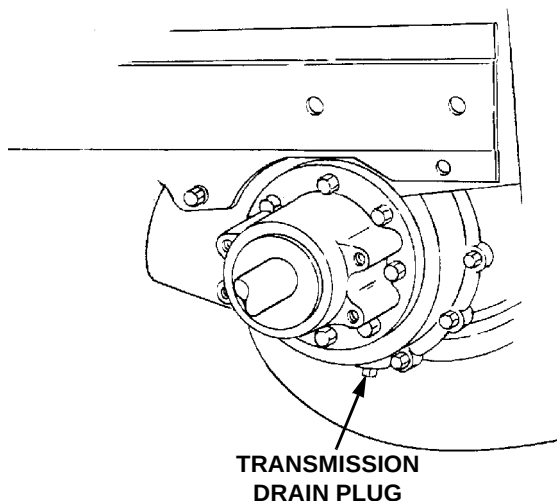

Figure 21
2. Clean the area around the transmission drain plug to prevent debris from entering the transmission case. Remove the drain plug and allow the transmission oil to drain into a clean container having a capacity of more than 6 quarts. Reinstall the drain plug (Refer to Figure 21).